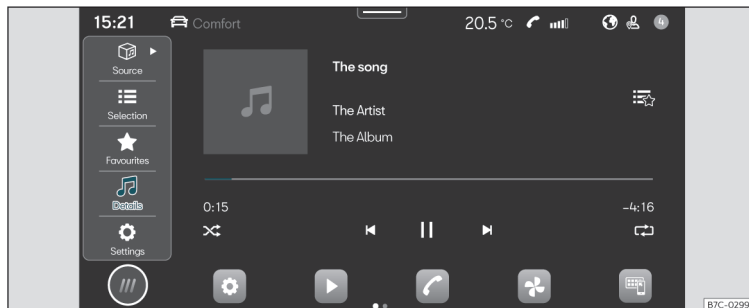

Fig. 133 Schematic representation: Multimedia view
- Press **HOME** > ►►► **Fig. 133**.